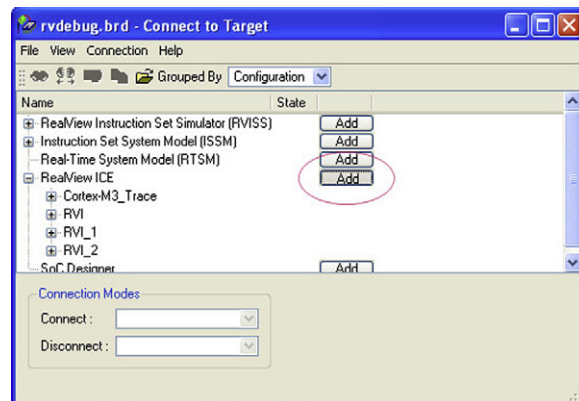

Figure 19.6:
You can then add a connection configuration in the Connect-to-Target window (Figure 19.6).
- Create a new connection and connect to the RealView-ICE as shown in Figure 19.6